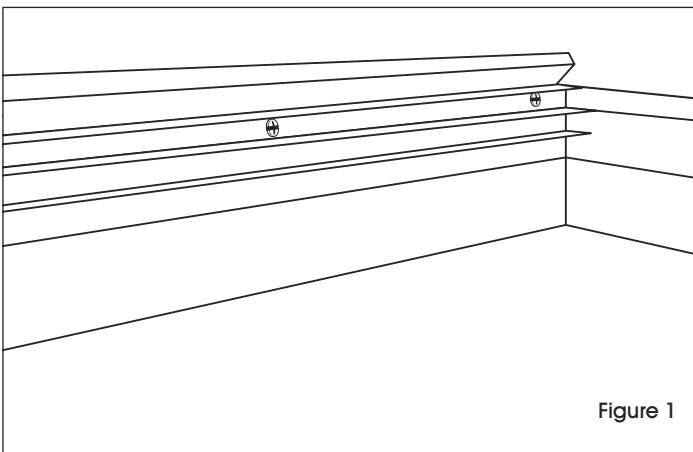

Figure 1
2. Attach one aluminum track to the top inside edge of the message center using three Phillips head screws. Make sure the aluminum track is as far from the cork board as possible. It may be necessary to predrill holes. (See Figure 1)